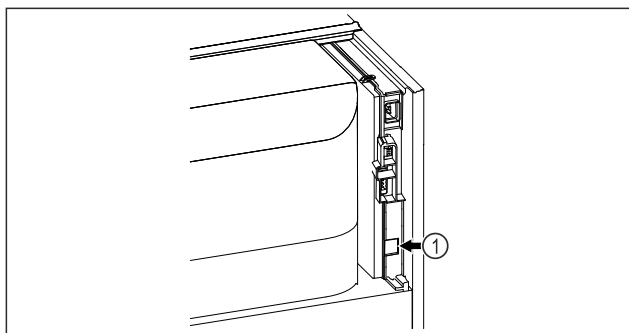

Fig. 139
- SmartModule Fig. 139 (1) is in use.